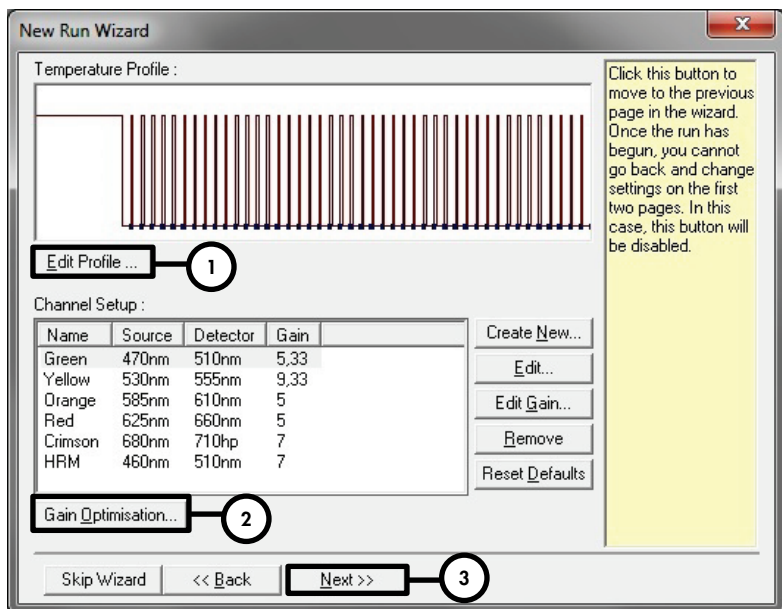
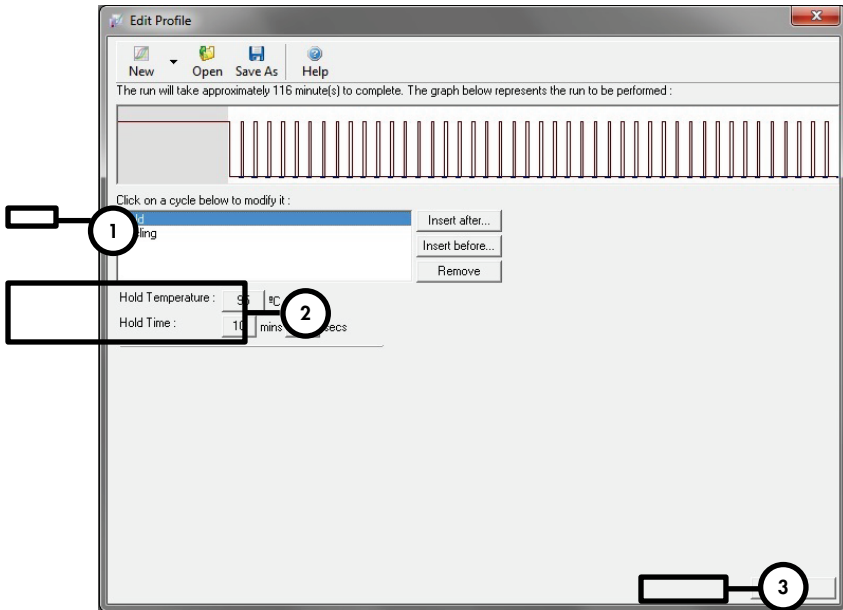

Figure 4. Editing the profile.
Figure 5. Initial activation of the hot-start enzyme.
Initial activation of the hot-start enzyme	Figure 5
9. Click **Edit Profile** in the next **New Run Wizard** dialog box (Figure 4), and program the temperature profile as shown in Figures 5–6.
10. The detection range of the fluorescence channels has to be determined according to the fluorescence intensities in the PCR tubes. Click **Gain Optimisation** in the **New Run Wizard** dialog box (Figure 4, Step 2) to open the **Auto-Gain Optimisation Setup** dialog box (Figure 7). Check the **Perform Optimisation Before 1st Acquisition** box (Figure 7). Make sure that all three channels (Green, Red and Yellow) are selected for **Auto-Gain Optimisation** (Figure 7). (Find channels in the drop-down menu under **Channel Settings** and click **Add**.) Click **Close** of the **Auto-Gain Optimisation Setup** dialog box when the gain calibration is completed.